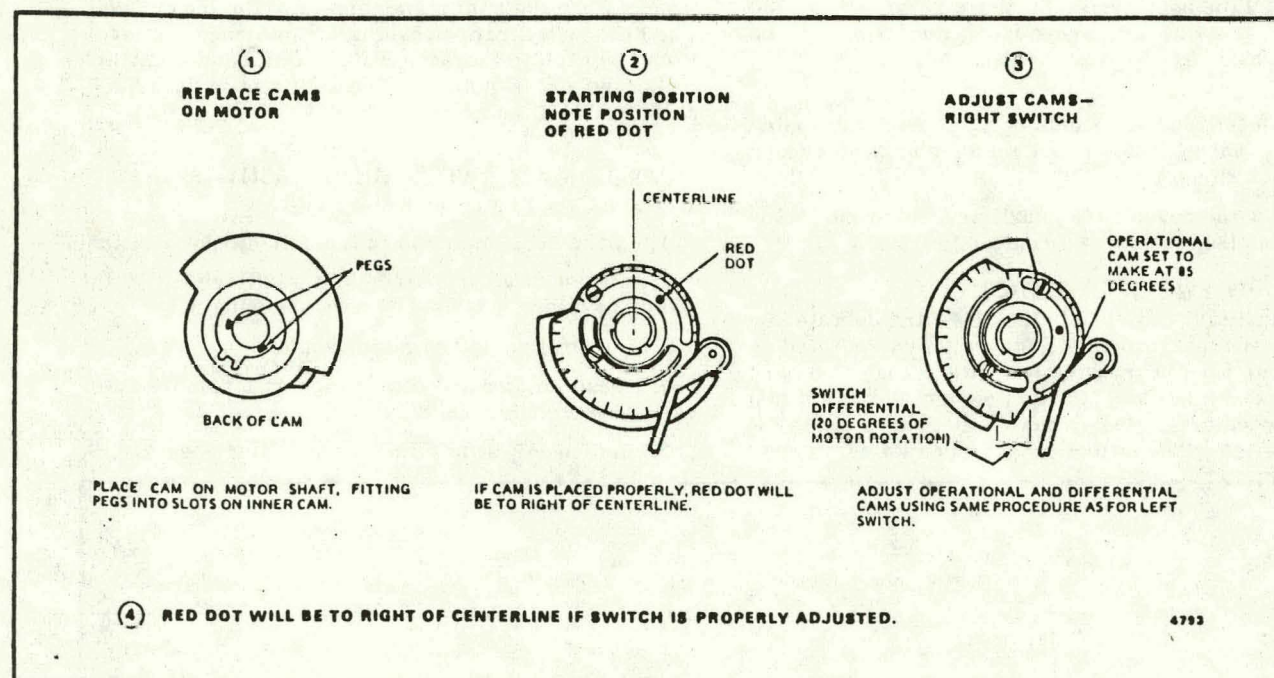

FIG. 10--ADJUSTING RIGHT SWITCH MAKE AND BREAK POINTS.
6. Put right switch cams on motor shaft and adjust right switch. See Fig. 10.